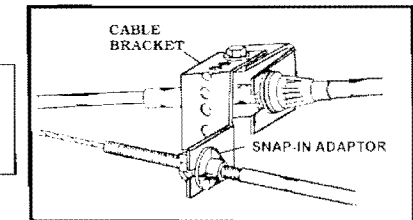
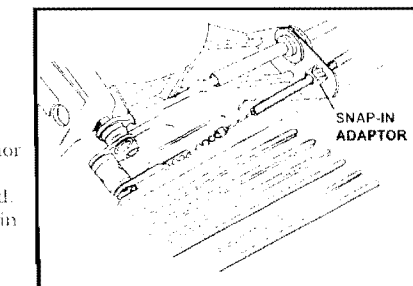

Figure 22
Figure 23
- The SNAP-IN ADAPTOR snaps into the square hole of the CABLE BRACKET **Figure 22** or snaps into an existing square hole on the vehicle (common on GM™ vehicles). **Figure 23**